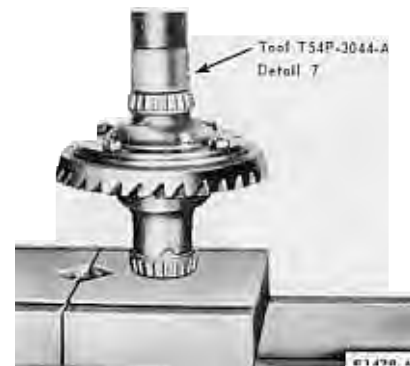

FIG. 24—Differential Bearing Installation
7. If the differential bearings have been removed, press them on as shown in Fig. 24.
1. Place the side gear and thrust washer in the differential case (Fig. 24). Lubricate all parts liberally with axle lubricant during assembly.
15. If the differential bearings have been removed press them on as shown in Fig. 24.